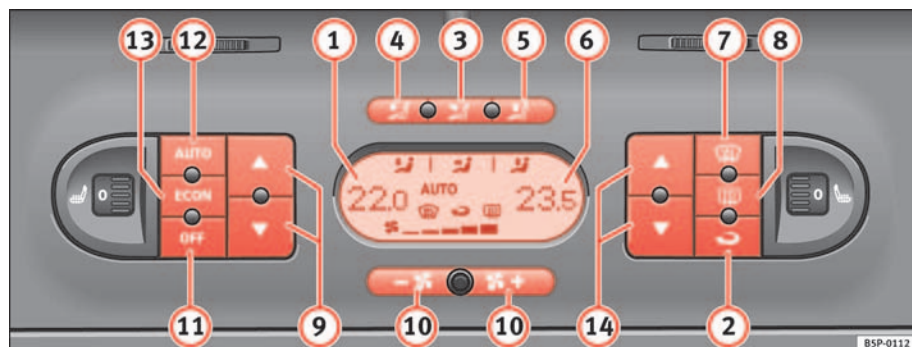

Fig. 126 On the dash panel: 2C Climatronic controls ▶
- Press the temperature control buttons ⇒ page 150, fig. 126 9 or 14 in order to adjust the temperature on the left hand side or the right hand side respectively.
- Press the button  ⇒ page 150, fig. 126. “AUTO” is shown on the display. ▶